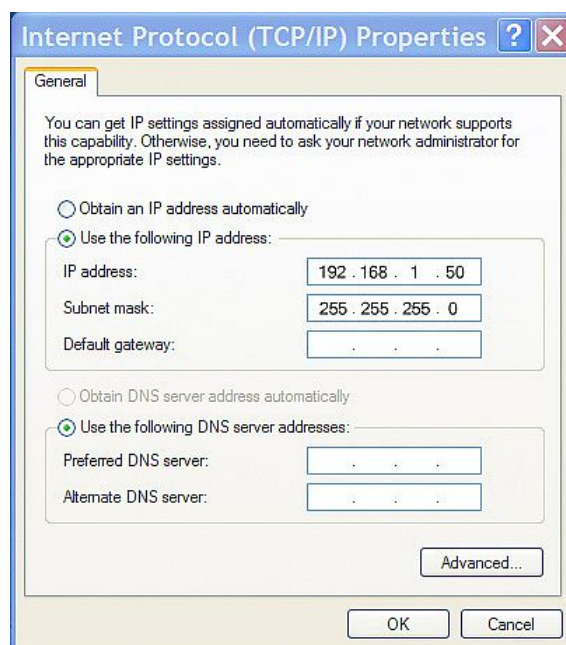

Figure 2.3e- TCP/IP Properties
- In the Local Area Connection Properties window in the Connection Uses box, scroll down and highlight “Internet Protocol (TCP/IP).” Click the button labeled “Properties.” The “Internet Protocol (TCP/IP)” Properties menu appears (Figure 2.3e).